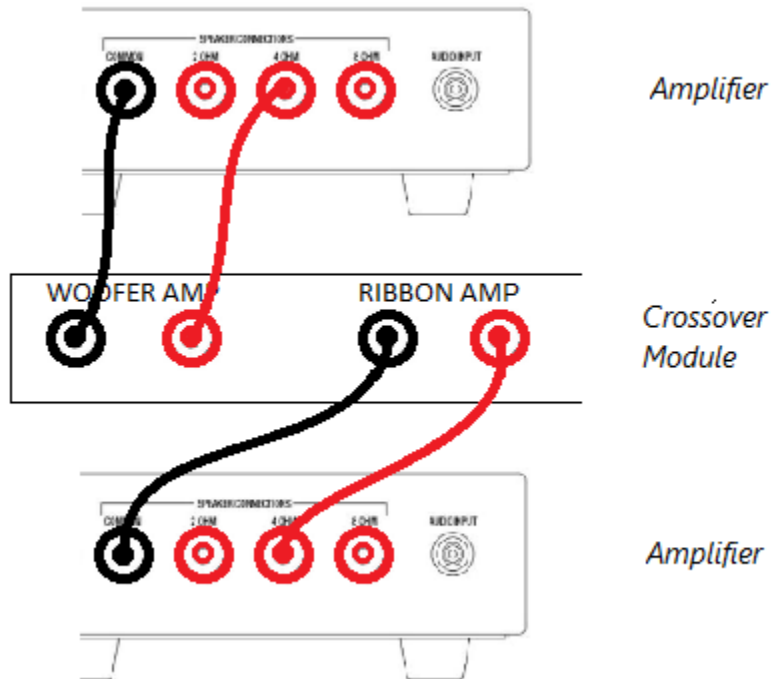

Figure 3 - Bi-Amplified Amplifier Connections
*Bi-Amplified* connections employ separate amplifiers for the speaker's woofers and tweeters. In this mode, separate amplifiers are connected to the **WOOFER AMP** and **RIBBON AMP** crossover terminals. See Fig. 3.